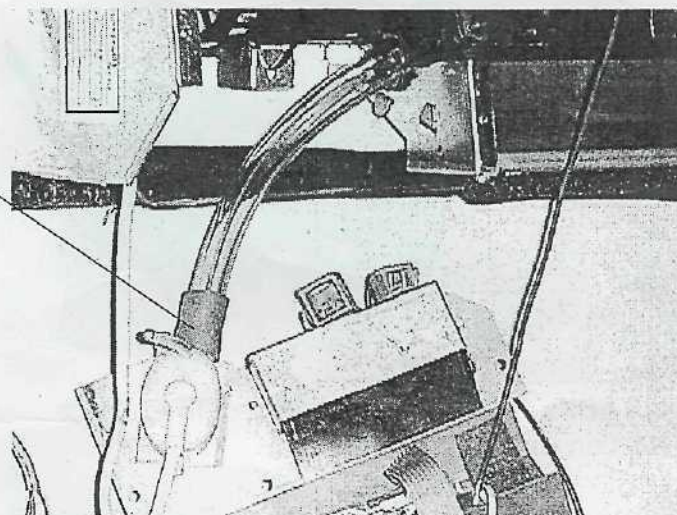

Fig. 6- Sump/Detection Unit Installed On Control Panel.
6. Place Sump/Detection Unit in place on the Control Panel as shown. The unit will snap into place. [FIG. 6]